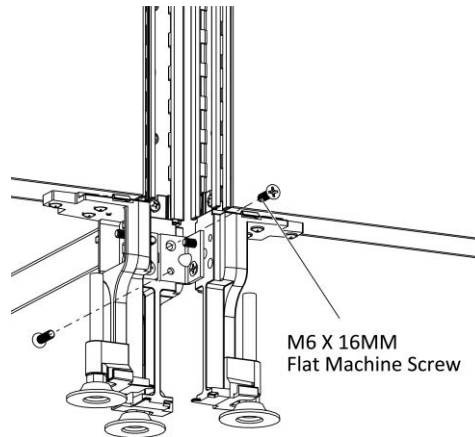

Figure 6
10. Secure the base with two M6 X 16MM Flat Machine Screws, (Figure 6).